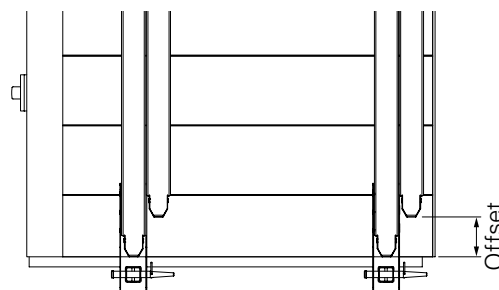

Fig. B5.04a
- If the girders are only slightly moved to each other, secure the Guardrail Post Holder Multi (**94**) before installing the girder. Otherwise screw and bolt holes can be covered. (Fig. B5.04a)